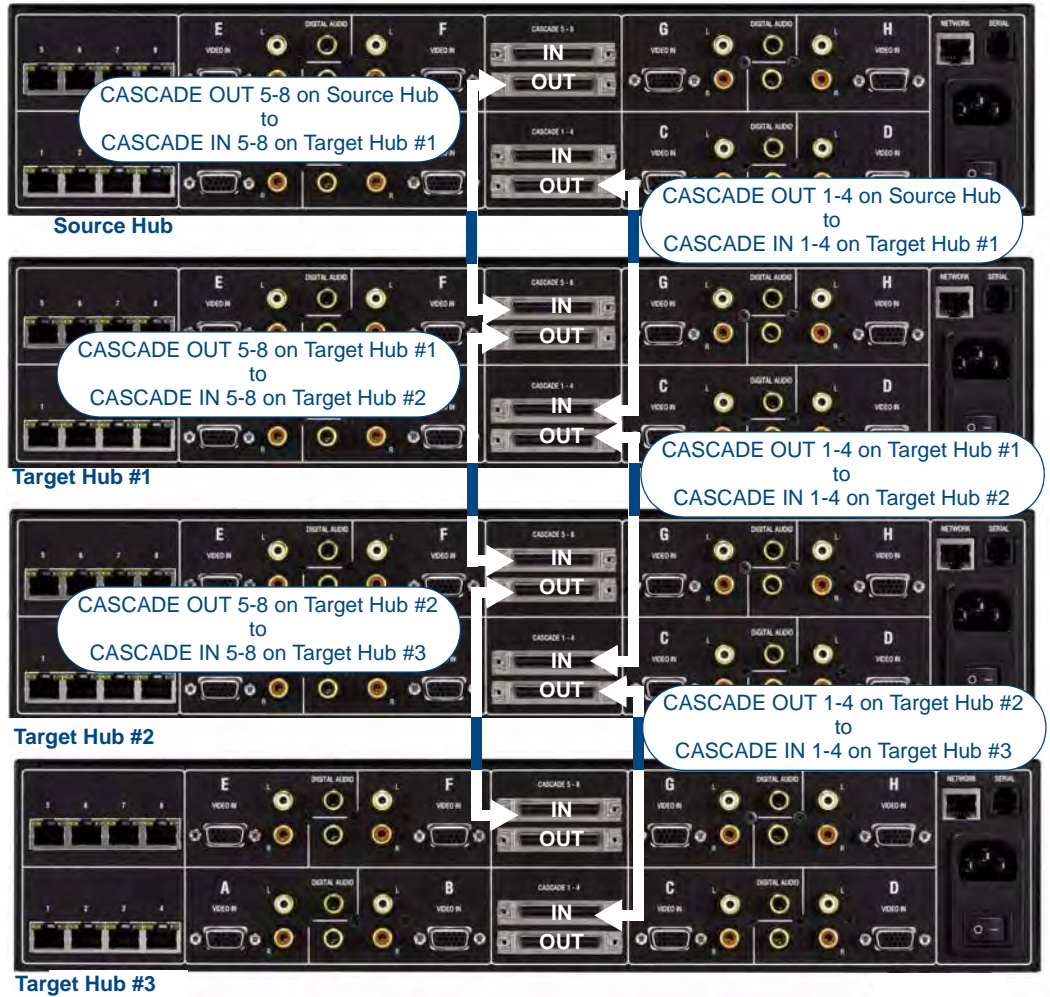

FIG. 72 Four cascaded UDM-0808-SIG Hubs
1. Cascade A/V inputs from the Source Hub to the first Target Hub (Target Hub #1 in FIG. 72):